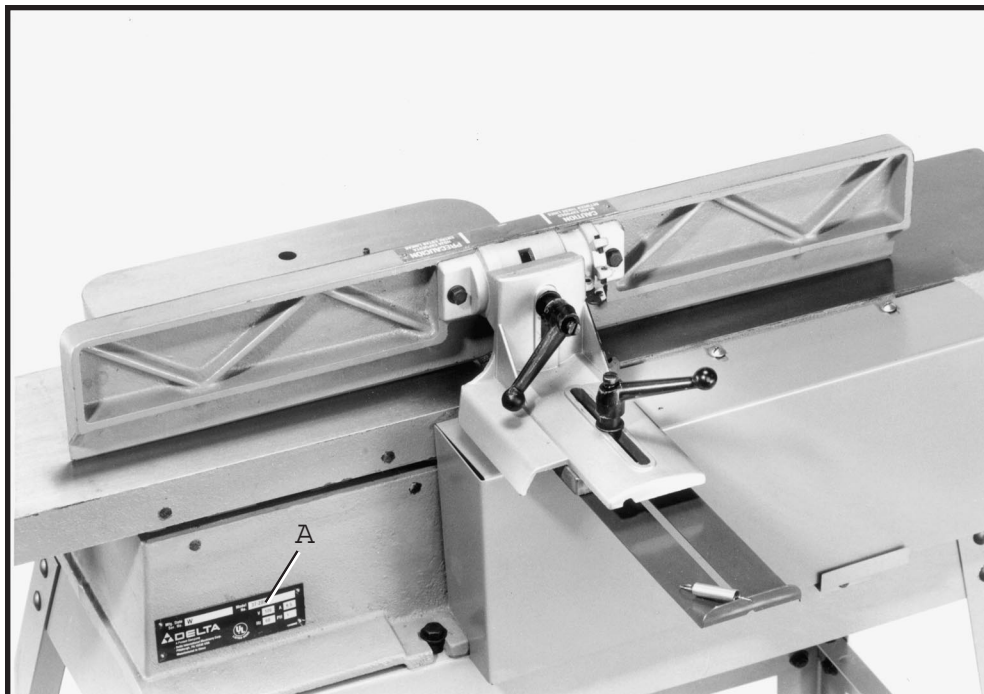

Fig. 54
The identification plate (A) Fig. 54, is located at the rear of the jointer, as shown. Record the serial number onto the front of this manual for future reference.